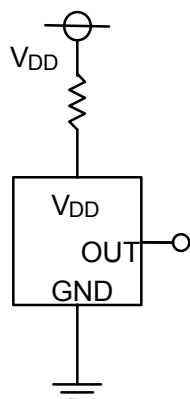

Figure 9
1. In Figure 9, When R3113Dxx1C is used, and if an impedance is connected between Voltage Supplier and the V_{DD} Pin of R3113Dxx1C Series, the operation might be unstable by cross conduction current at detection.
When R3113Dxx1A is used in Figure 9, if the value of R is set excessively large, voltage drop may occur caused by supply current of IC itself and Detector threshold may vary.